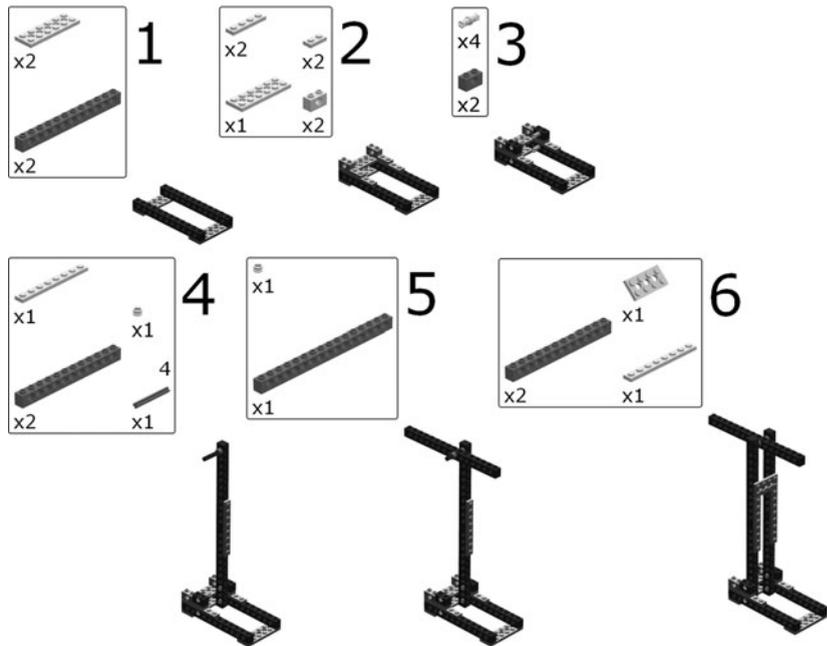

Fig. 3-9. Building the lever.
**Try This:** For levers, let's build a LEGO lever machine. In the fine tradition of these types of projects, the construction steps are depicted in pictures, shown in Fig. 3-9. The last step, and an informative example showing range of motion, is in Fig. 3-10. Pushing down on the long arm of the lever creates an upward force on the short arm. While the long arm moves four times as far, the short arm creates four times the force.